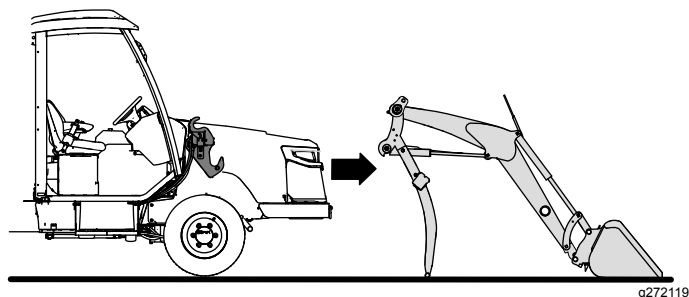

Figure 50
2. Start the engine and slowly drive the machine up to the loader arms (Figure 50).